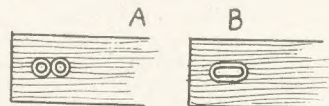

Fig. 3—Making the screw slots
Bore the holes for the screws large enough to allow them to be pushed through with the fingers, and well countersink them. For the slots, bore and countersink a pair of holes $\frac{1}{4}$ in. apart, as at (A) Fig. 3, and cut the holes to form the slot, as at (B).